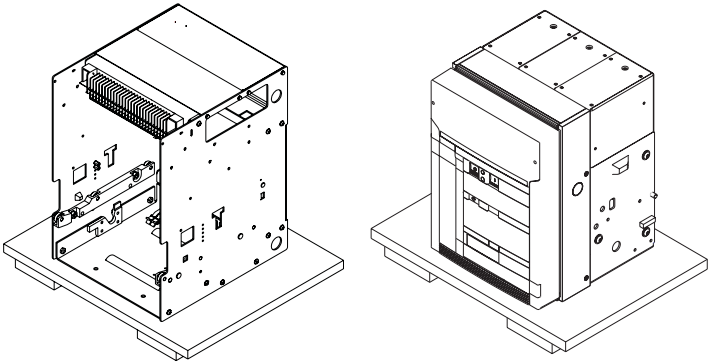

Figure 5.
- Position the circuit-breaker and any fixed part on a horizontal surface, not in direct contact with the floor, but on a suitable support surface (Figure 5)